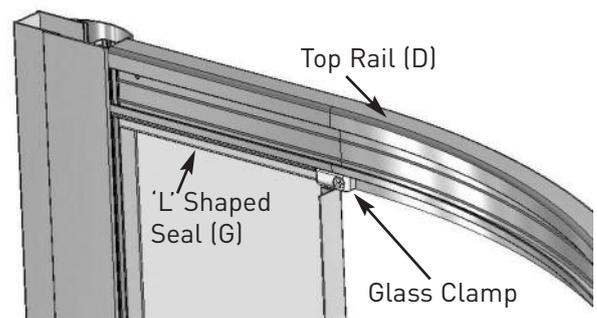

Figure a10
10. Place Top Rail (D) onto assembly and fix into position using 40mm screws (P) (Figure a10). Remove each LH and RH glass clamp in turn and slide 'L' Shaped Seal (G) between top of Glass Panel (B) and bottom of Top Rail (D) once this is done replace glass clamps.
11. Place Top Rail (D) onto assembly and fix into position using 40mm screws (P) (Figure a10). Remove each LH and RH glass clamp in turn and slide 'L' Shaped Seal (G) between top of Glass Panel (B) and bottom of Top Rail (D) once this is done replace glass clamps.